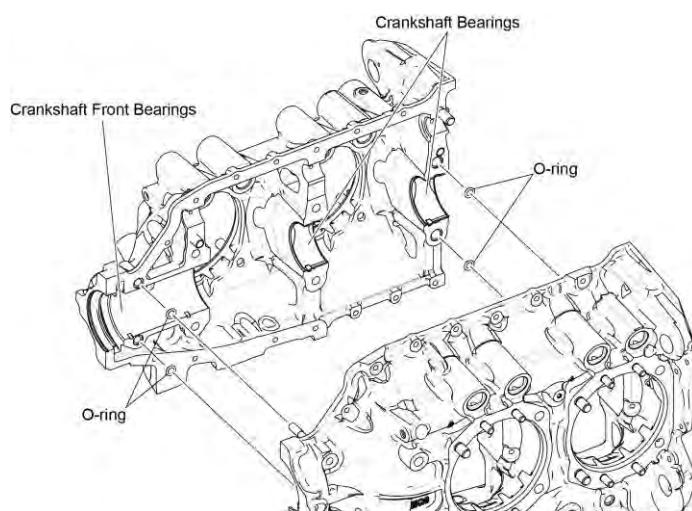

Figure 11
- (5) Remove and discard the crankshaft bearings, crankshaft front bearings, and O-rings (Figure 11).
- (1) Install new crankshaft bearings at all main bearing locations in the crankcase halves (Figure 11).